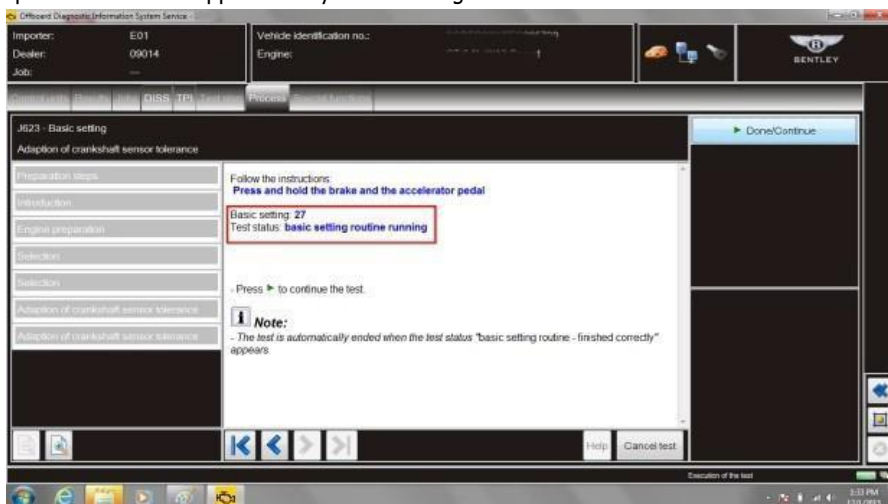

Figure 22
9. With both brake and accelerator pedal held 'on' the test will continue as shown on screen *basic setting routine running* (see Figure 22)